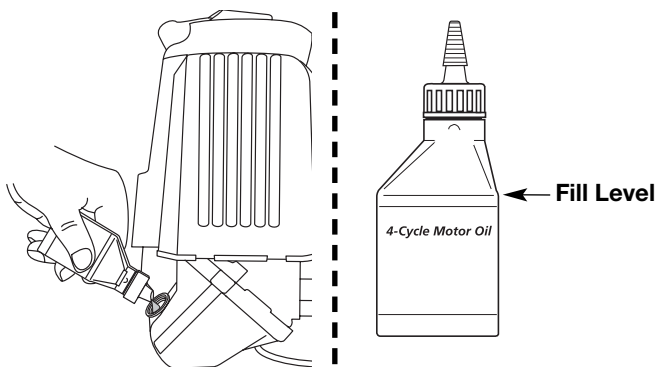

Fig. 60
**NOTE:** Use the bottle and spout saved from initial use to measure the correct amount of oil. The top of the label on the bottle measures approximately 3.0 fl oz (90 ml) (Fig. 60). Check the level with the dipstick. If the level is low, add a small amount of oil and recheck. Do not overfill (Fig. 60).